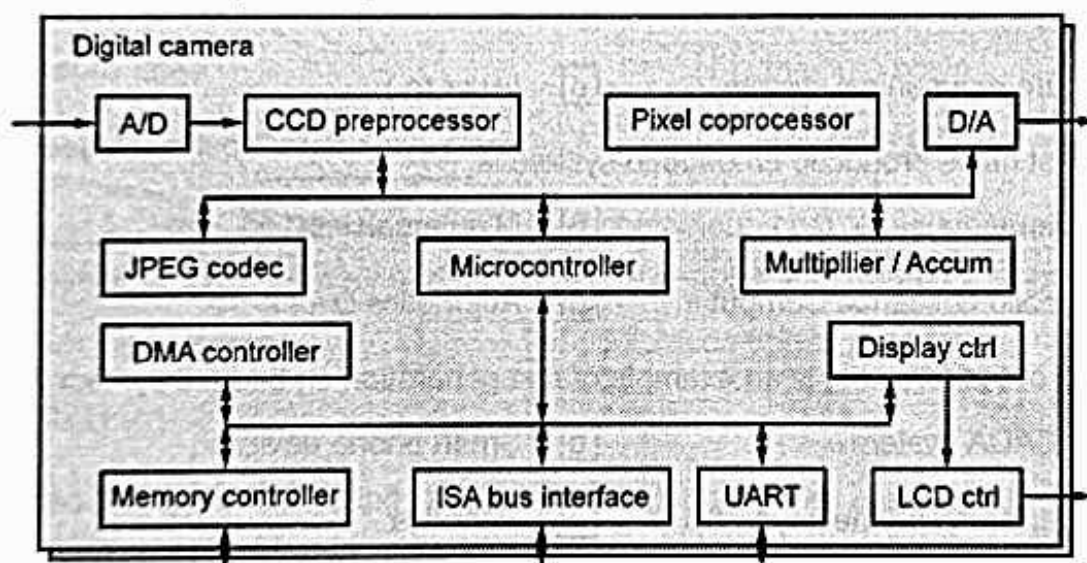

Fig. 1.5.3 : Design of digital camera
- Fig. 1.5.3 shows example of digital camera.